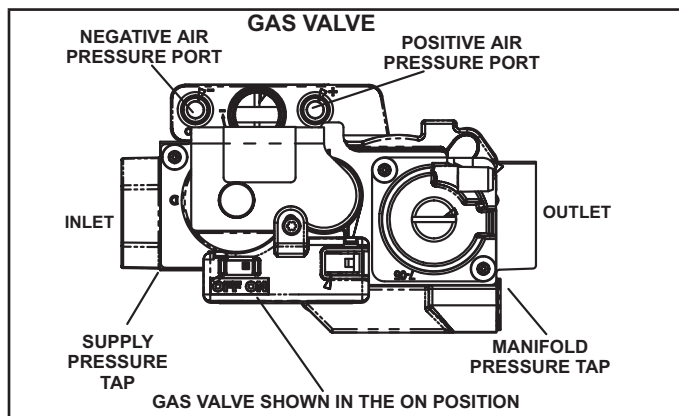

FIGURE 63
## Gas Valve Operation (FIGURE 63)
- 6 - Move gas valve switch to OFF. See FIGURE 63.
- 8 - Move gas valve switch to ON. See FIGURE 63.